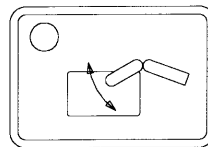

Fig. 30-2
The function is activated by key 15 on the control panel (Fig. 30-2). The function is deactivated by pressing the same key, or by activating relevant joysticks.